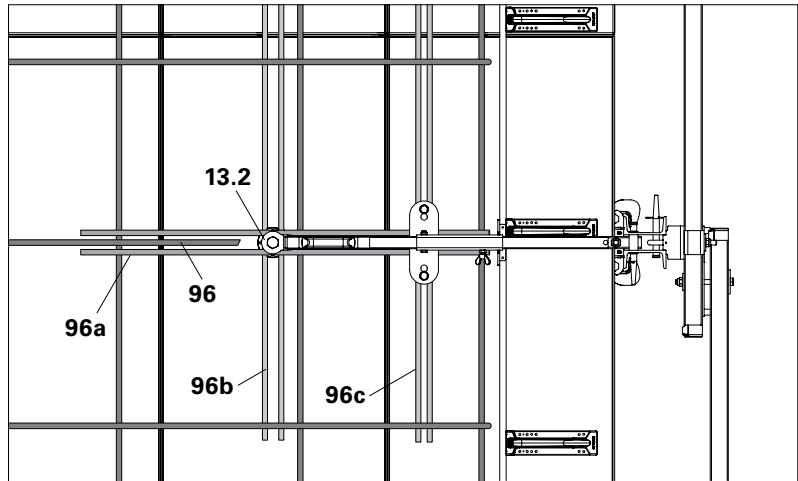

Fig. D1.09
1. Create an opening in the reinforcement for the Threaded Anchor Plate (13.2). If necessary, move colliding reinforcement bars. For mesh reinforcement, cut rod (96) and replace it with reinforcement bars of the same diameter.
3. Fold down Slab Anchor Template (16) and install Climbing Cone (13.5). Align Slab Anchor Template and secure.
4. Push the 4 reinforcement bars (96a + 96b) all the way up to the Climbing Cone (13) so that they touch it on each side. Attach reinforcement bars to the slab reinforcement by means of wires.
5. Fix embedded front anchors (15) with one pair of reinforcement bars (96c) to the top reinforcement using wires. (Fig. D1.09 + D1.09a)